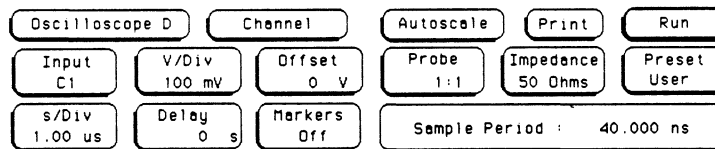

Figure 3-3. Channel Screen Configuration
- e. Configure **Channel** screen as shown in figure 3-3, setting probe factor first.